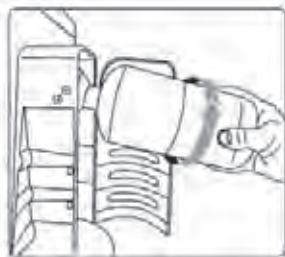

Figure 2
2. Swivel regulator outward for easy tank installation. Screw 1 lb. disposable LP-gas supply cylinder clockwise (from bottom) into portable heater until hand-tight and then put it perpendicular. See Figure 2. Do not use thread sealant on this connection.